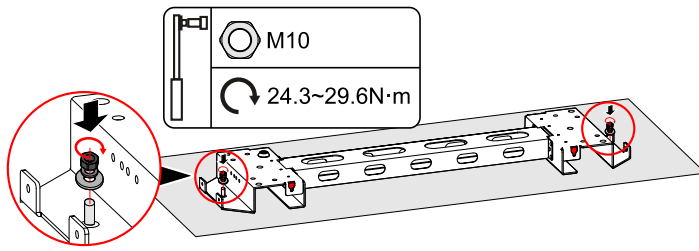

Figure 3-8 Fix the base module
Step 5 Fix the base module to the installed floor, as shown in Figure 3-8.